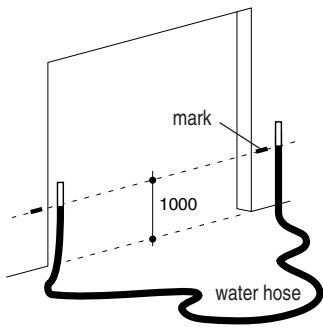

figure 2.1.1
- 1 inscribe on both uprights at ca. 1 metre marks absolutely horizontal relative to one another, using where necessary a water hose (see fig. 2.1.1).